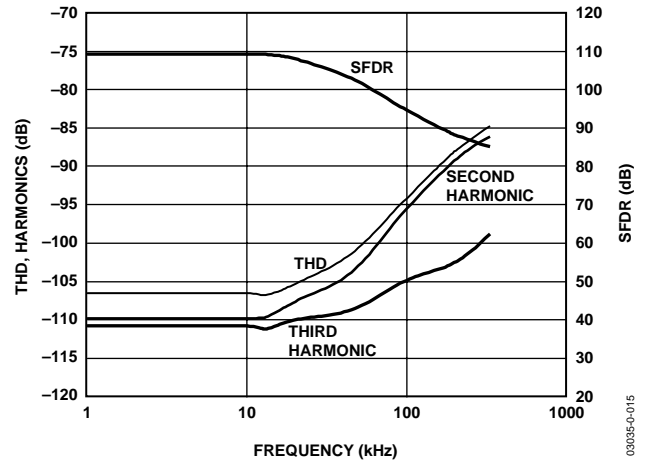

Figure 15. THD, Harmonics, and SFDR vs. Frequency
- The driver needs to have a THD performance suitable to that of the AD7667. Figure 15 gives the THD versus frequency that the driver should exceed.